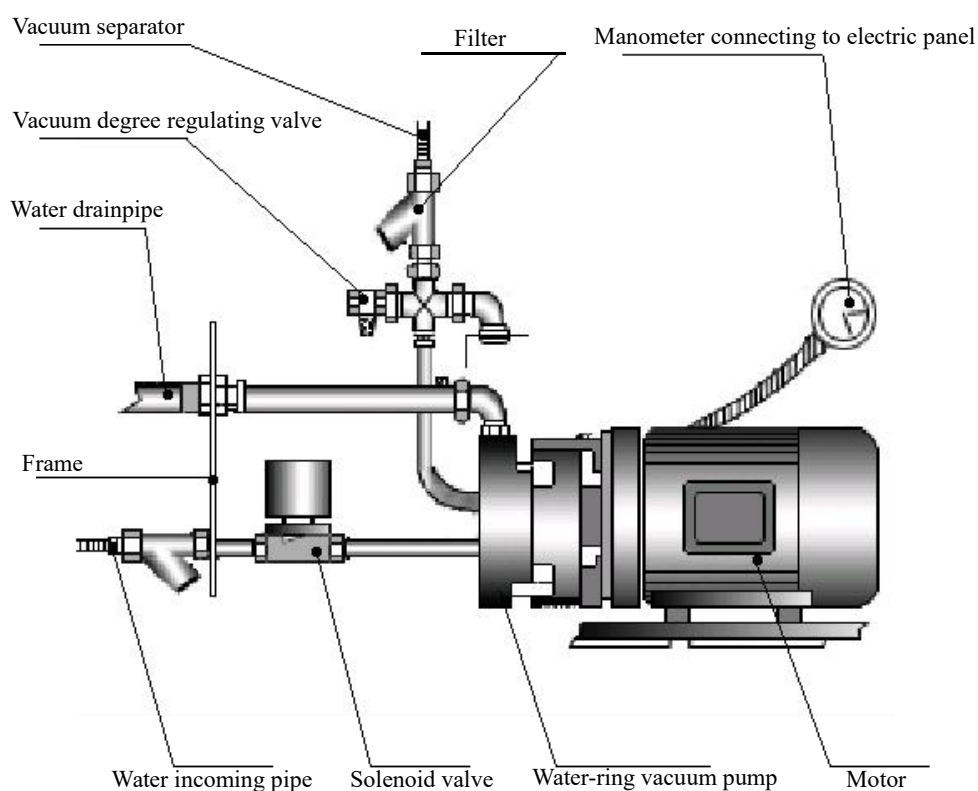

Fig. 33 Vacuum System
5.2.15 Adjustment of Vacuum (refer to Fig. 33)
8.3 Regularly open and clean the filter of vacuum system. (refer to Fig. 33)